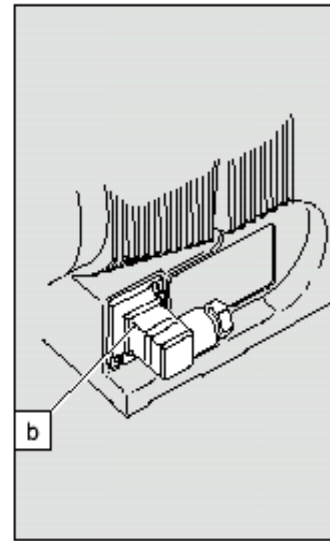

Fig. 19
- Insert the relay cable plug seal into the relay cover and screw on the plug (see fig. 19)